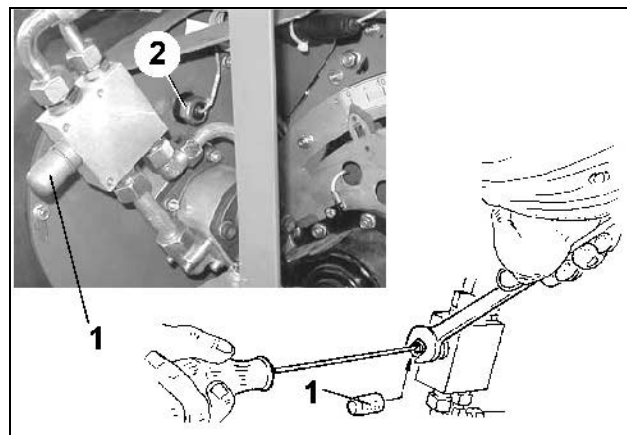

Fig. 95
Please find the required blower fan speed in the table (Table 5). Set the blower fan speed on the pressure relief valve (Fig. 95/2) or on the current regulating valve on the tractor (see below).
- remove dust cap (Fig. 95/1)